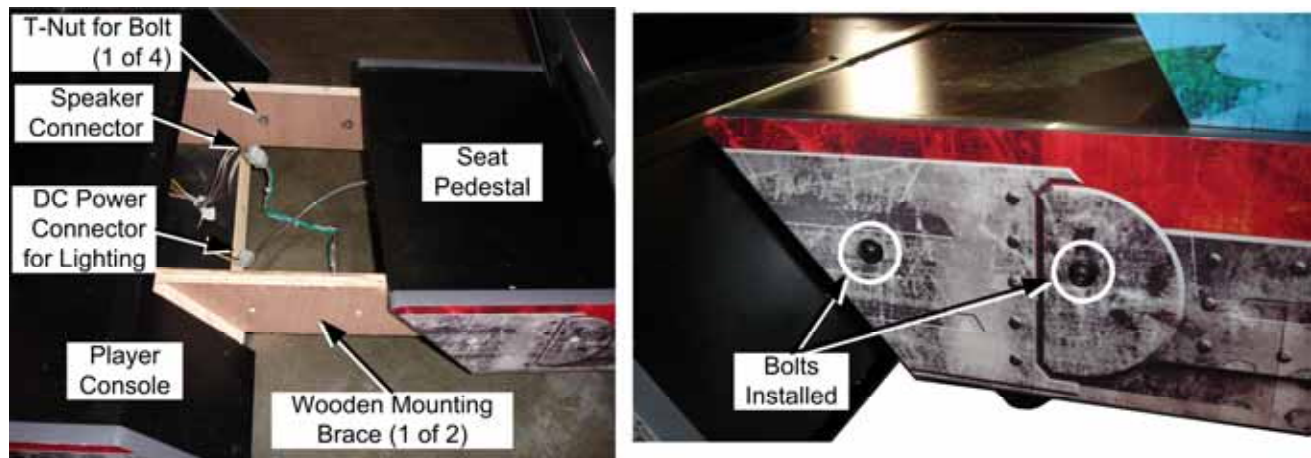

Figure 5. *Installing the Seat Assembly*
1. Install two wooden mounting braces to the console, as shown in Figure 5, and secure each brace with two (2) $\frac{1}{4}$ -20 x $1\frac{1}{2}$ " hex bolts with lock washers and flat washers. Make sure the T-nuts are facing each other on the part of the brace sticking out from the console, as shown.
2. Place each seat in position in front of the player console, and connect the two harnesses between the console and each seat, as shown in Figure 5. (One harness is for the speakers, the other provides DC power for the light under the seat.)
4. Secure each seat with four (4) $\frac{1}{4}$ -20 x $2\frac{1}{4}$ " Torx bolts with washers (two on each side), as shown below. The Torx bolts will screw into the T-nuts on the mounting braces.